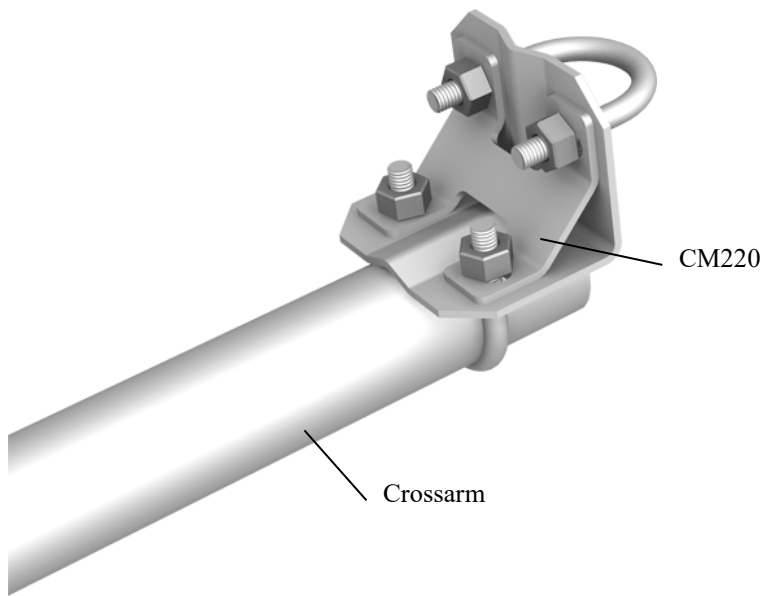
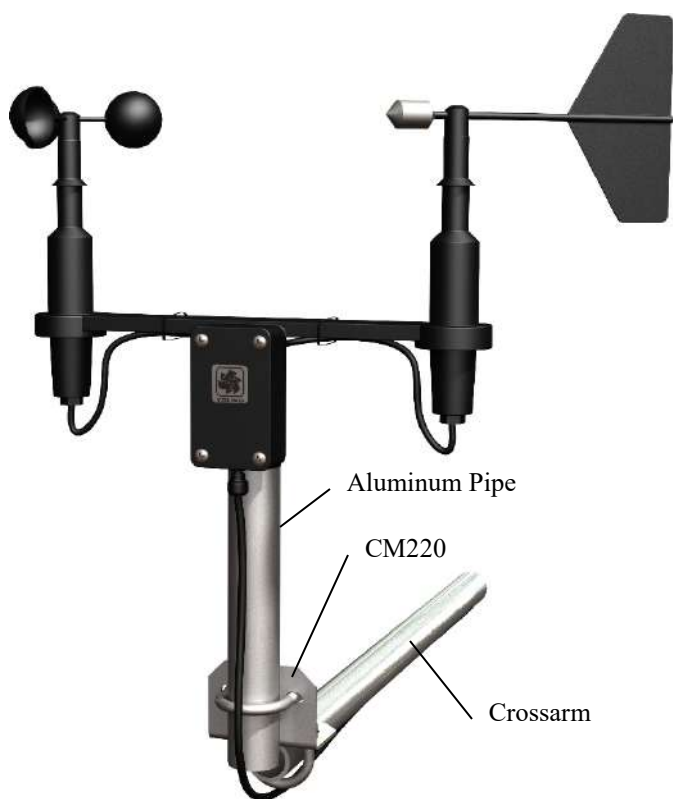

FIGURE 7-1. Crossarm with CM220 Right Angle Mounting Bracket
FIGURE 7-2. 03002 mounted to a crossarm with the CM220
- CM220 Right-Angle Mounting Kit (FIGURE 7-1 and FIGURE 7-2),
3. Secure the 3/4-inch IPS, 10-inch-long, threaded aluminum pipe to the CM220 mount (FIGURE 7-1) or 3/4 x 1 inch Nu-Rail fitting (FIGURE 7-4).